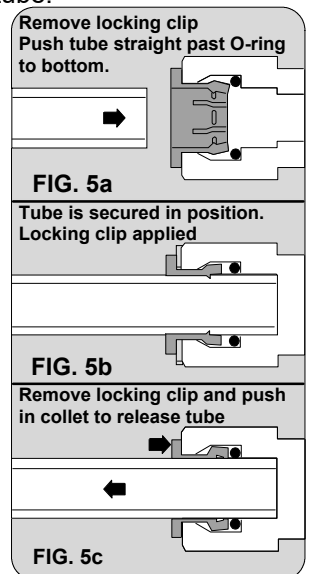

FIG. 5
6. Remove locking clip from the collet. Insert 3/8" drain tube into push-in connector to complete the installation. (See Fig. 5)